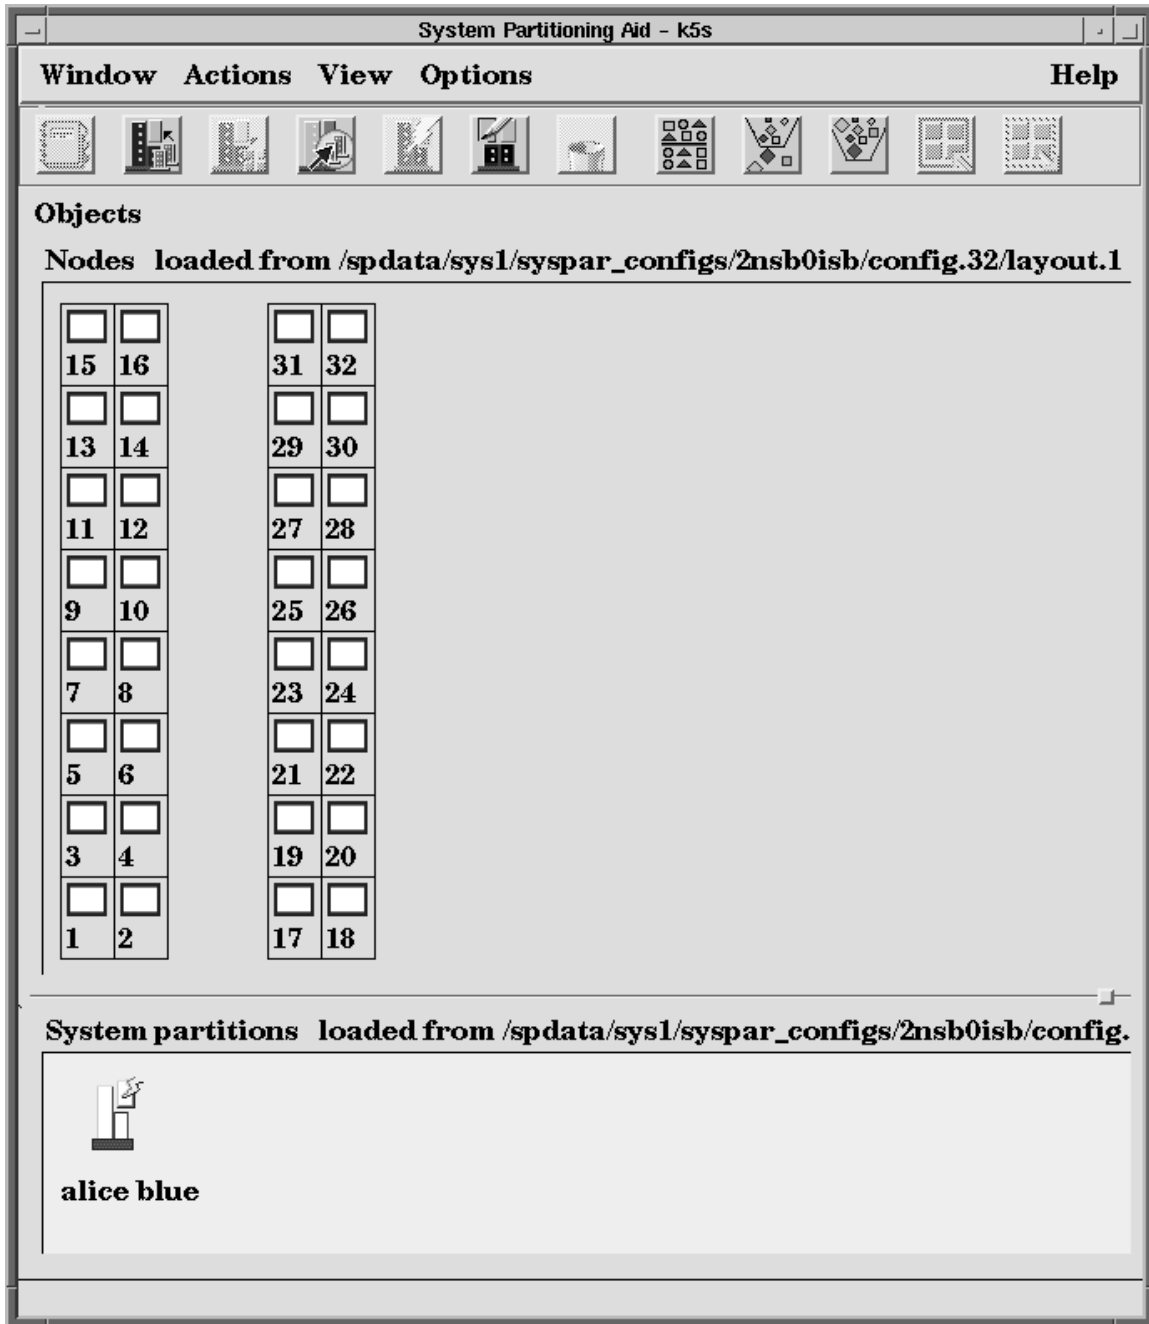
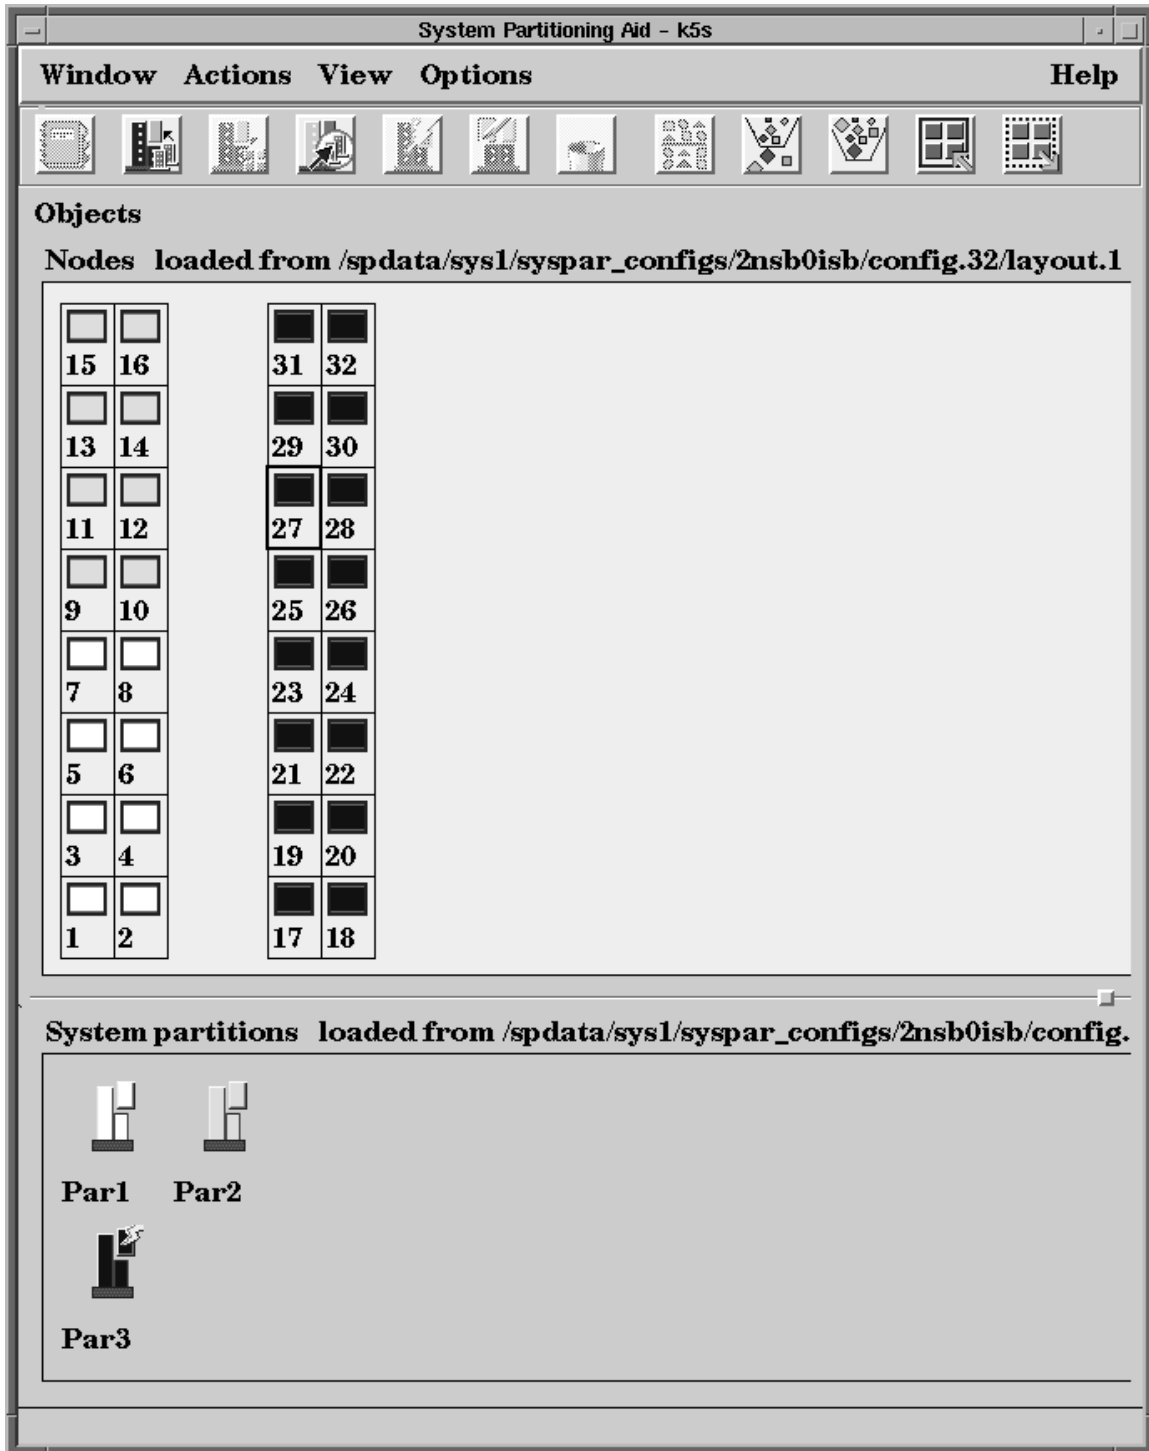

Figure 45. Main Window for Example 3 of Chapter 5
Figure 46. System Partitioning for Example 3 of Chapter 5
3. Select the "2 16 port switches" and select the "32" configuration. You find there is only one such layout. Select this layout and open it. You now have a 2-frame, 32-node system as shown in Figure 45 on page 225. The system partition name "alice blue" is a default choice, which matches the default color chosen by the tool.
Your objective for system partitions is to divide the system pictured in Figure 45 into 3 pieces: the lower half of Frame 1, the upper half of Frame 1, and Frame 2. You may perform the following tasks to accomplish this, and arrive at Figure 46 on page 227: